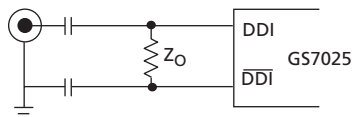
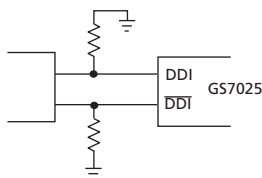
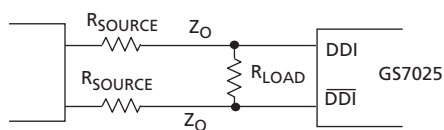

Figure 3-7: Digital Inputs - simple interface
Figure 3-8: Digital Inputs - controlled impedance interface
Figure 3-9: Digital Inputs - single-ended input interface
Commonly used interface examples are shown in Figure 3-7, Figure 3-8 & Figure 3-9.
Figure 3-7 illustrates the simplest interface to the GS7025 digital inputs. In this example, the driving device generates the PECL level signals (800mV amplitudes) having a common mode input range between 0.4 and 4.6V. This scheme is recommended when the trace lengths are less than 1in. The value of the resistors depends on the output driver circuitry.
When trace lengths become greater than 1in, controlled impedance traces should be used. The recommended interface is shown in Figure 3-8. In this case, a parallel resistor (RLOAD) is placed near the GS7025 inputs to terminate the controlled impedance trace. The value of RLOAD should be twice the value of the characteristic impedance of the trace. In addition, place series resistors (RSOURCE) near the driving chip to serve as source terminations. They should be equal to the value of the trace impedance. Assuming 800mV output swings at the driver, RLOAD = 100Ω, RSOURCE = 50Ω and ZO = 50Ω.
Figure 3-9 shows the recommended interface when the GS7025 digital inputs are driven single-endedly. In this case, the input must be AC-coupled and a matching resistor (ZO) must be used.